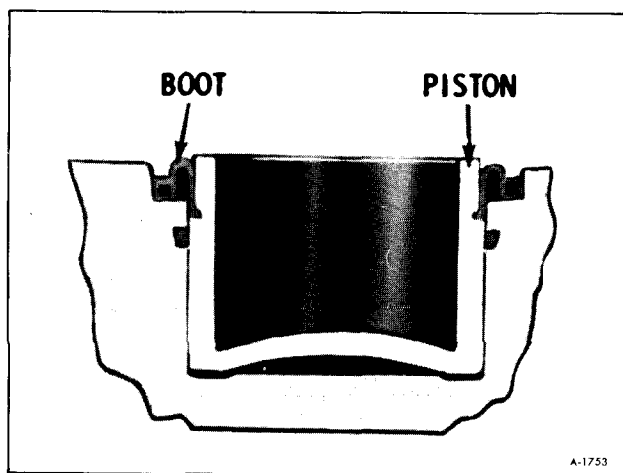

Figure 53-Boot Installation
2. Examine the inside of the caliper for evidence of fluid leakage. If leakage is noted, the caliper should be overhauled. Wipe the inside of the caliper clean, including the exterior of the dust boot. Check the boot for cuts, cracks or other damage. Make sure that the boot is properly engaged in the groove in the piston and also in the caliper counter-bore. (figure 53)